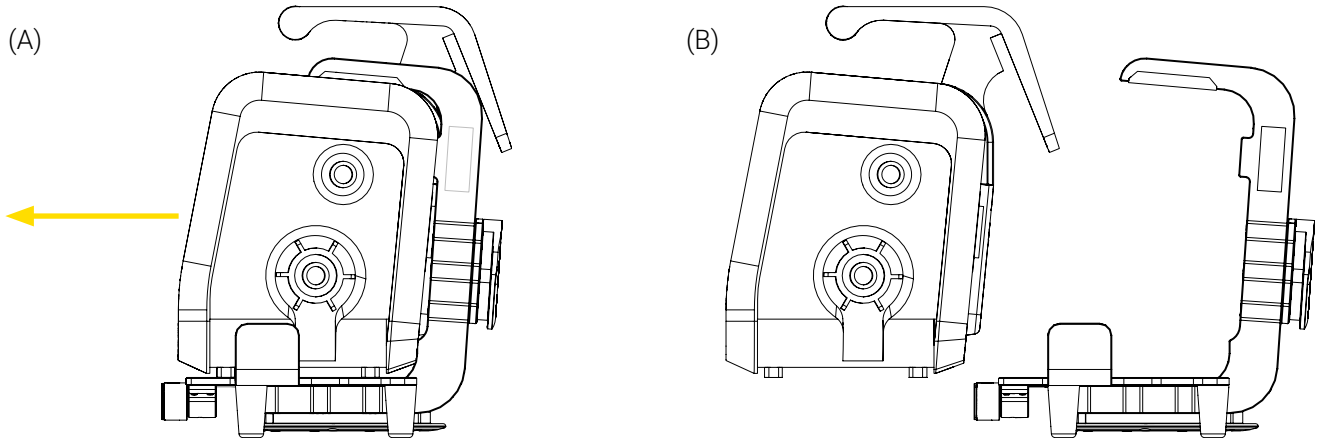

Figure 6: Removing the medical device from the Bracket Pro Serie 60 - GR
2. Pull the medical device outwards using the handle to remove it from the bracket (Figure 6). Set aside the medical device.